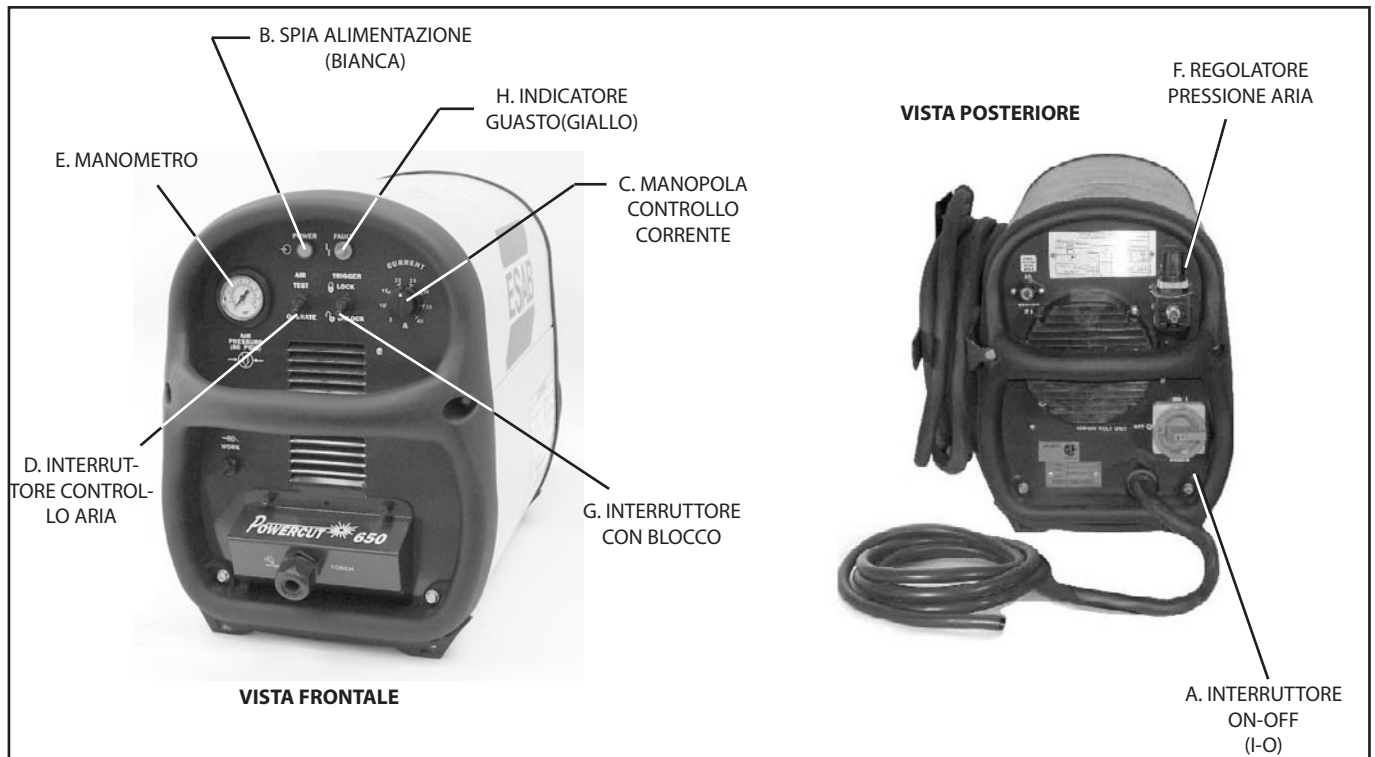

Figura 4.1. Comandi POWERCUT 650
4.0 COMANDI DEL POWERCUT 650 (FIGURA 4.1)